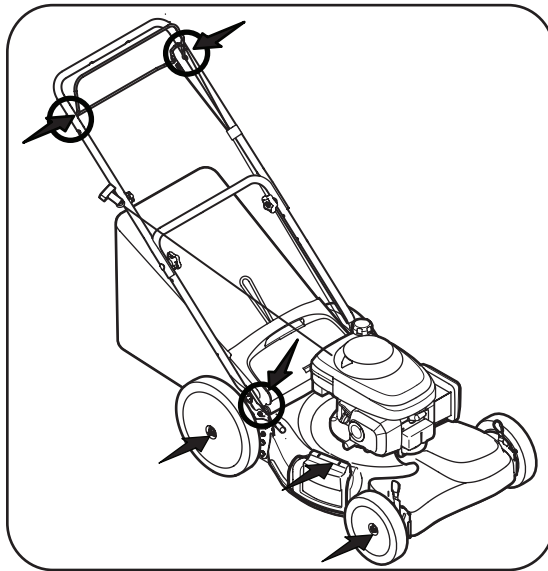

Figure 5-1
1. Lubricate pivot points on the blade control at least once a season with light oil. The blade control must operate freely in both directions. See Figure 5-1.
2. Lubricate the wheels at least once a season with light oil (or motor oil). If wheels are removed for any reason, lubricate surface of the pivot arm and inner surface of the wheel with light oil. See Figure 5-1.
3. Lubricate the torsion spring and pivot point on each end of the rear discharge door and the side mulching plug periodically with light oil to prevent rust. See Figure 5-1.